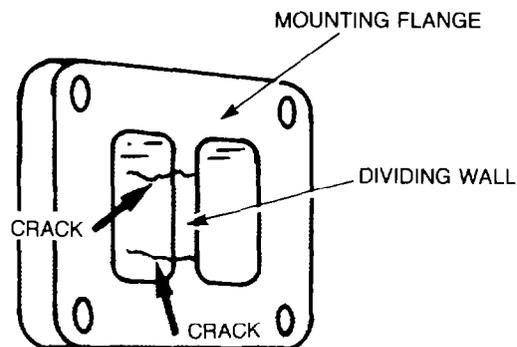

Figure 150 — Mounting Flange Dividing Wall
- r. Cracks in the dividing wall of the mounting flange (see Fig. 150), are acceptable, but must be separated by at least 12.7 mm (0.5 in.) of solid material.